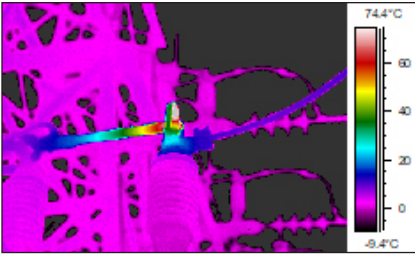

Figure 4. A typical “hot spot” at the latch end of a disconnect switch.
• **Associated Switches and Disconnects:** Problems with high-resistance heating are common in all types of switching and disconnect mechanisms (Fig. 4). A normally operating device will should be at or near ambient air temperatures. Optimally, all switch/disconnect devices should be inspected after they are put back into operation. Even slight heating (approximately 200F) over time can result in annealing damage that will be exacerbated quickly into a device that has significant damage to contact surfaces or, in the worst case, has welded itself together.